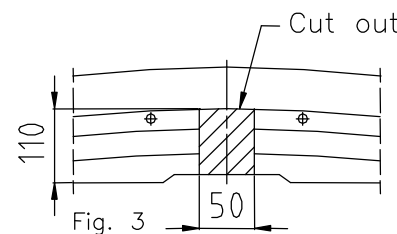

Fig. 3 Cut out
3. To the left and right chassis member slip sleeve  $L=85$ mm (pos. 10), see fig.
4. To drilled holes put sleeves  $L=51,5$ mm (pos. 9).
5. To the inside of chassis members and rear part of the car put brackets (pos. 4 and 5) and fix using bolts  $M10 \times 120$ mm (pos. 12) through sleeves and bolts  $M10 \times 35$ mm (pos. 14) through nuts on the jib (pos. 8).
6. Put the main bar of the towing hitch (pos. 1) on protruding elements (bolts) of removed metal reinforcement and fix using original nuts  $M8$  (from reinforcement) and using  $M10 \times 90$ mm (pos. 13) - see fig.
7. Elements of the towing hitch (pos. 6 and 7) fix loosely to the original tow handle, and next through holes (pos. A) of ball brackets fix using bolts  $M10 \times 35$ mm (pos. 14).
8. Fix tow-ball (pos. 2) with socket plate (pos. 3) using bolts  $M12 \times 75$ mm (pos. 11).
9. Assemble a cover plate and a bumper (cut out its fragment - see fig. 3 and 4).